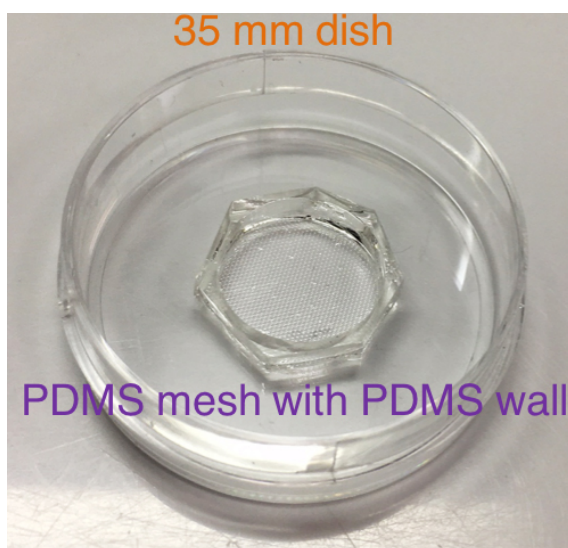

**Figure 4. Cover glass with 30  $\mu$ m depth fiducial**
- b. Using the dicing machine to cut  $\sim 30$   $\mu$ m depth fiducial on one side of cover glass. The design of fiducial is shown in Figure 4.